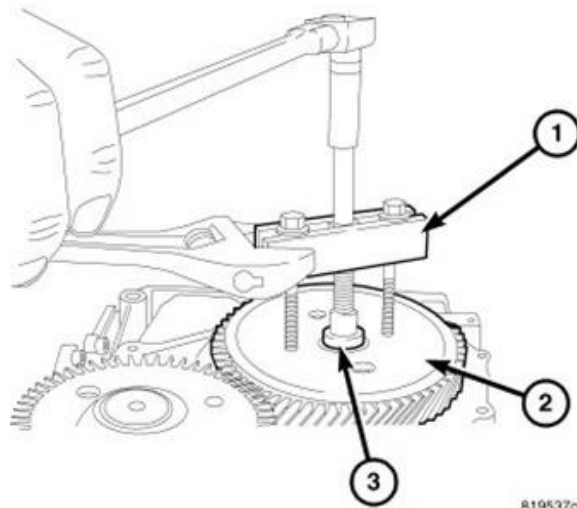

Figure 23 – Transfer Gear Puller
- 35. Using Gear Puller L-4407A (1) and Thrust Button 6055 (3) release the transfer gear (underdrive compounder side) (2) then remove the gear puller (Figure 23).